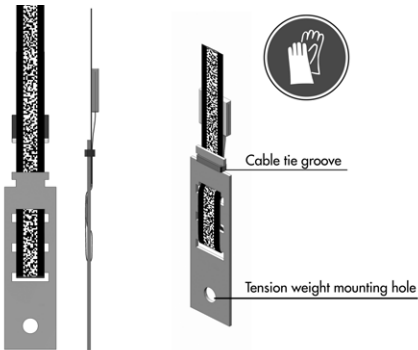

Figure 31: Bottom tension lock
3. Straighten the code tape. Fasten it with a cable tie around the tension lock (Figure 31).